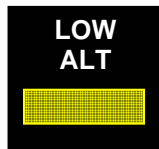

Figure 2 Approved LOW ALTITUDE Switch Display
4. Verify the existing LOW ALTITUDE switch meets the display requirements as shown in Figure 2. If the LOW ALTITUDE switch requires installation or replacement, go to the "LOW ALTITUDE SWITCH INSTALLATION" section of this Service Bulletin.